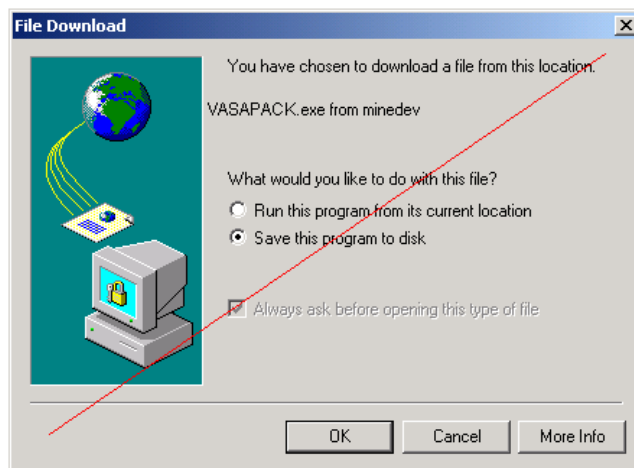

Figure 1: Download window number one
Step 1: The first item is to download the install program by clicking VASAPACK.exe on the same page where you found these instructions. A window should appear similar to figure 1.